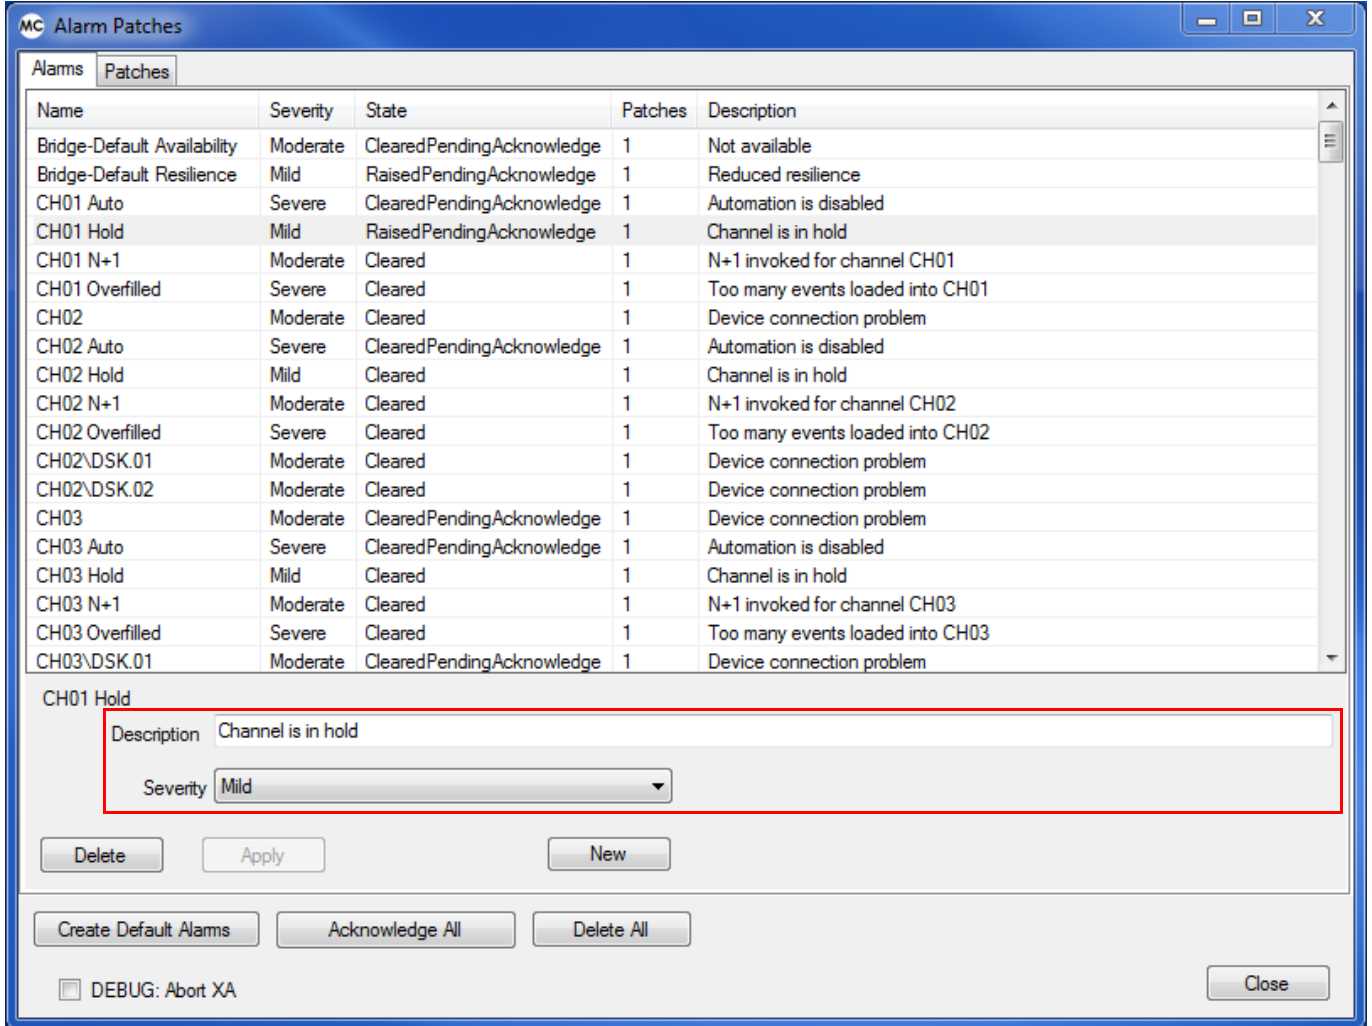

Figure 58 Modifying an Alarm
2. Edit the **Description** and/or **Severity** fields as required (Figure 58) and click on **Apply**.